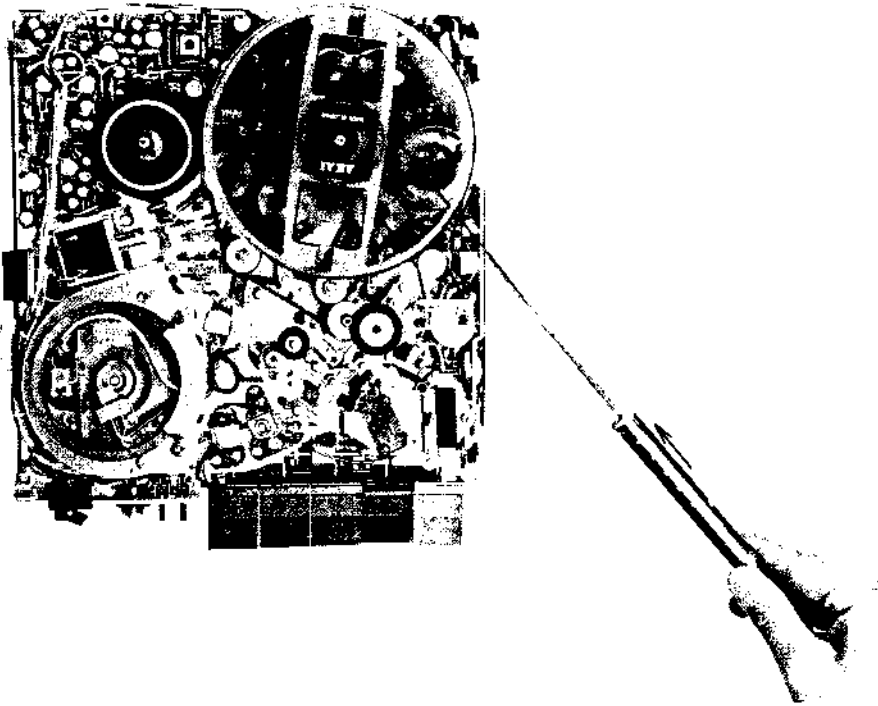

Fig. 1-6
- a) As shown in Fig. 1-6, use a 50 mm diameter of tape wound on a 5" reel and with 0 to 300g tension gauge, measure the take-up torque at playback mode.